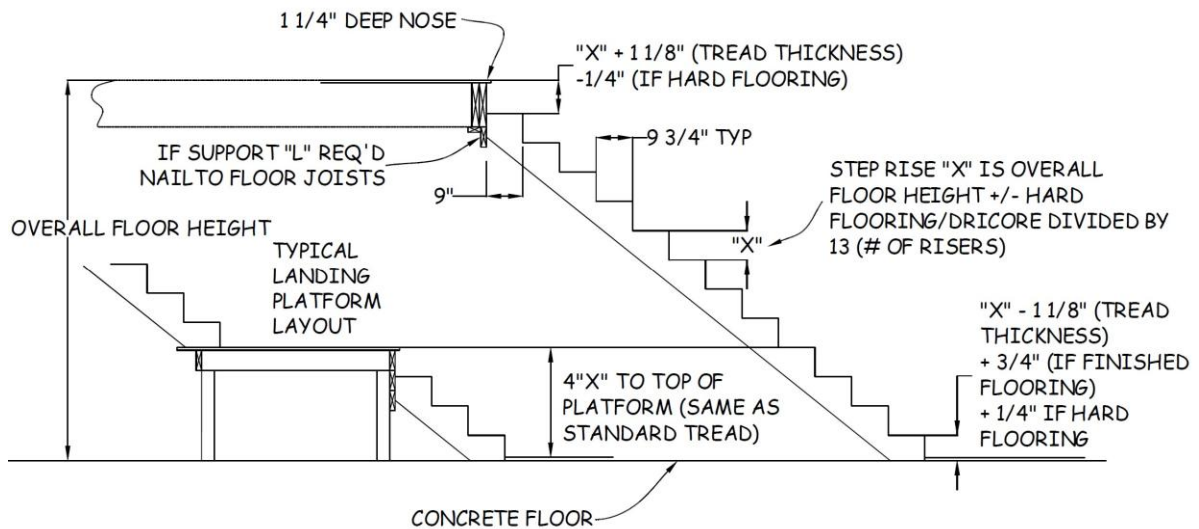

Figure 4-7. Stair Stringer Installation.
4. Reduce the height of the last rise at the bottom of the stringer by $1\frac{1}{8}$ " (the thickness of the tread), unless the basement floor is to be finished. If the basement floor is to be finished, reduce the height of the rise by only $\frac{3}{8}$ ". This will accommodate the $1\frac{1}{8}$ " thickness of the tread and the $\frac{3}{4}$ " thickness of the DRICore (see Figure 4-7).
12. Use the last calculation in Figure 4-5 (Top Step Rise) and measure that distance down from the underside of the deck. Make a line on the stairwell framing at this point. This line marks the location of the tops of the three stringers (Figure 4-7).
1. A landing, if required, is a “joist” box made of 2x6’s covered with $\frac{3}{4}$ ” floor decking with floor joists installed on 16” centers (see Figure 4-7).